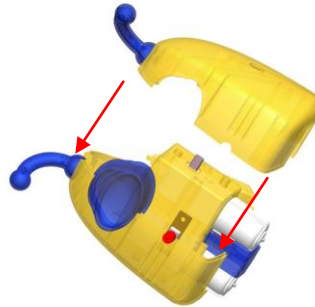

Fig. 12
10. Close the left and right body part. (Fig. 12)